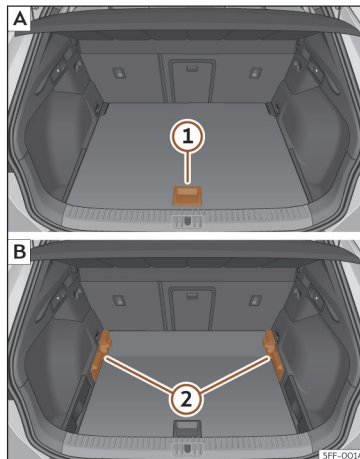

Fig. 115 Variable luggage compartment floor: [A] raised position; [B] lowered position.
- To move from the low position to the high position, lift the floor using the handle » **Fig. 115 (1)**, and pull it back until the front of the floor has fully passed the supports » **Fig. 115 (2)**.
- To move from the high position to the low position, lift the floor using the handle » **Fig. 115 (1)**, and pull it back until the front of the floor has fully passed the supports » **Fig. 115 (2)**.
- Lift the variable floor in the high position using handle»» Fig. 115 (1), pull it up and push it towards the backrest of the rear seats until it folds along the hinge line and the movable part of the floor is resting on itself.